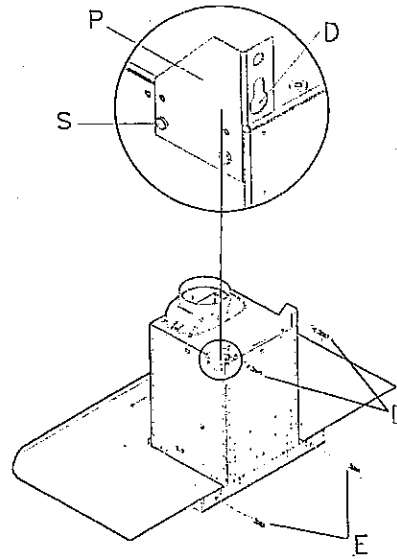

Fig. 2
The cooker hood can be converted to work as an air purifier in the event that there is no provision for an external air discharge duct. In this case air is recycled through the vent R (fig. 2). When using the unit as an air purifier, it is necessary to install two active carbon filters to absorb cooking vapours. These active carbon filters must be replaced regularly, at least once every three months, to allow normal operation.
Before starting to fit the carbon filter, turn the two-pole switch to zero (0). Press the handle of the metal grease filter towards the rear part of the unit, until it is released from the front housing, and remove it by pressing downwards (fig. 2). In the appropriate space, position the carbon filter which has two fixing tongues, to remove it from its position, press the tongues (Fig. 3). Reposition the greaseproof metallic filter.
Take the two casings A and B: rest the bottom of casing A on the top of the hood, taking care to position the tabs of the casing correctly on the back of the hood, as described in Fig. 2 Part X. Fix casing A onto the hood using the two screws K supplied in the bag of accessories (Fig. 2). Lift the mobile part B until it reaches the ceiling, checking that it is perpendicular to the hood. Mark the side measurement of the mobile casing B and then lower it. Take the fixing bracket G (Fig. 2), centre it with respect to the mark made previously, keeping it in contact with the ceiling, and then mark the anchoring holes (H). Using a drill bit with a diameter of 6 mm., make two holes on the reference marks made previously. Insert the expansion fixings provided, put bracket G in position and secure it with the screws provided. Lift casing B up to the ceiling and secure it to the bracket G, inserting the screws provided in the holes M (Fig. 2).